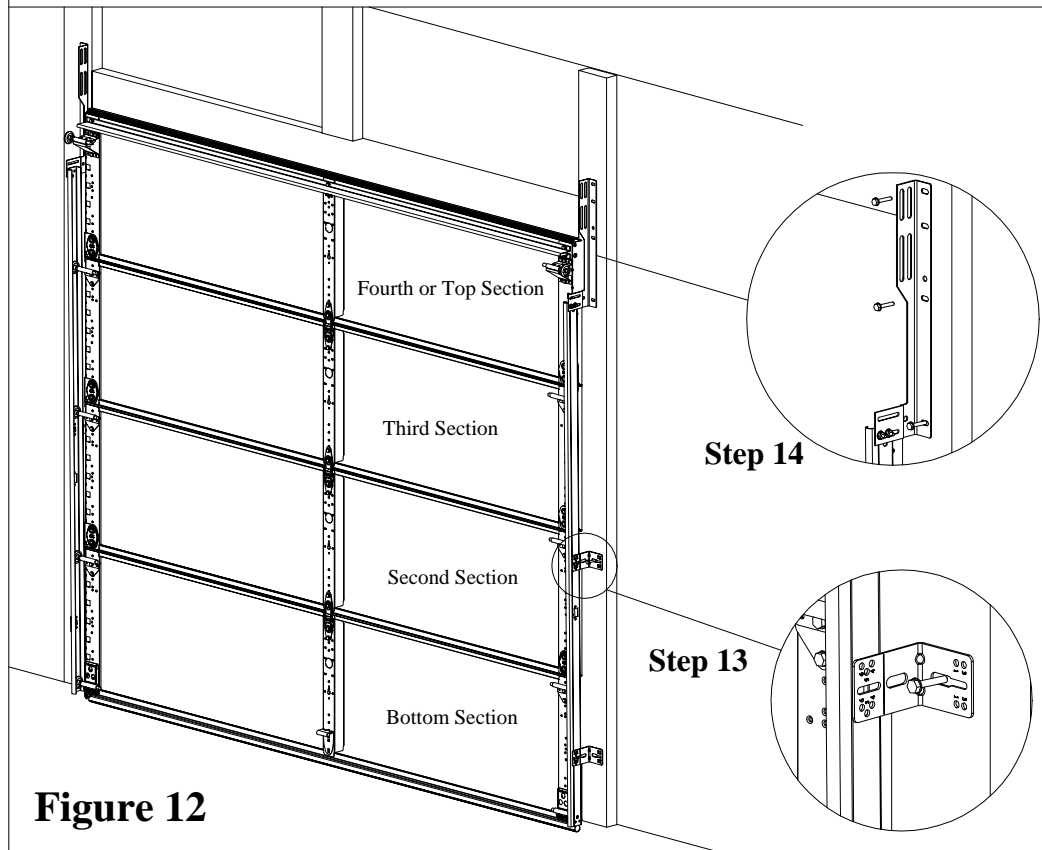

Figure 12
With track properly aligned, securely fasten jamb brackets to jamb with (1) 5/16"x1-5/8" lag bolt (Figure 12). **Note: Pre-drill 3/16" hole to prevent splitting of wood.**
Secure flag brackets with (3) 5/16"x1-5/8" lag bolts to jamb (Figure 12). **Note: Pre-drill 3/16" hole to prevent splitting of wood.**